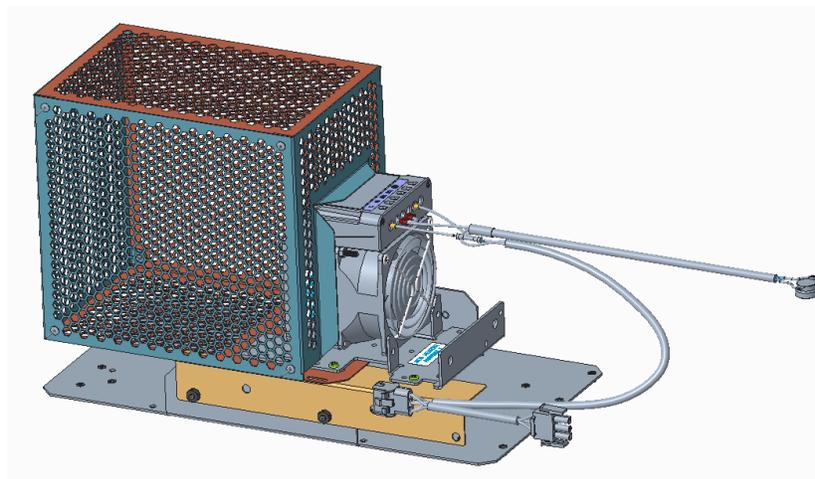
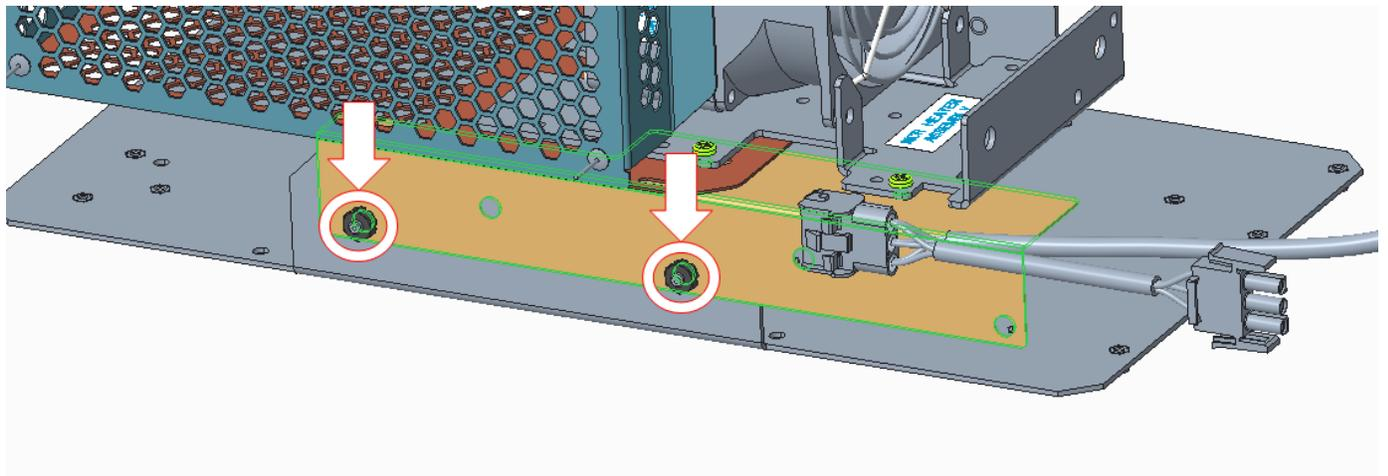

Figure 9
Figure 10
- 9) Secure the NCR heater + wire guard (497-0522796) + OPTIC Heater Shield Bracket Mount (497-0522505) assembly to the non-Invenco Link installed power supply bracket with the heater outlet facing the top of the power supply bracket as shown in Figure 9 and Figure 10 using two of the provided 8-32 nuts (006-8617730).